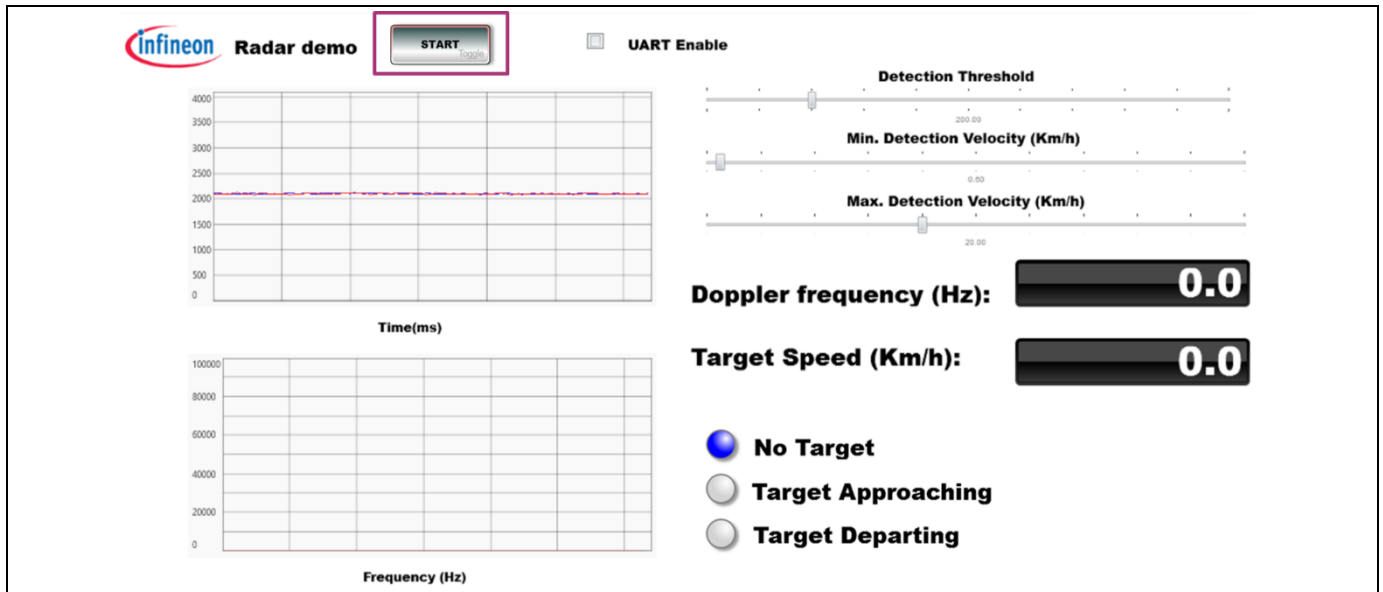

Figure 23 Start data collection
- The GUI interface in Figure 23 should appear. The size of the GUI is not adaptive and may require some adjustments to fit the screen.